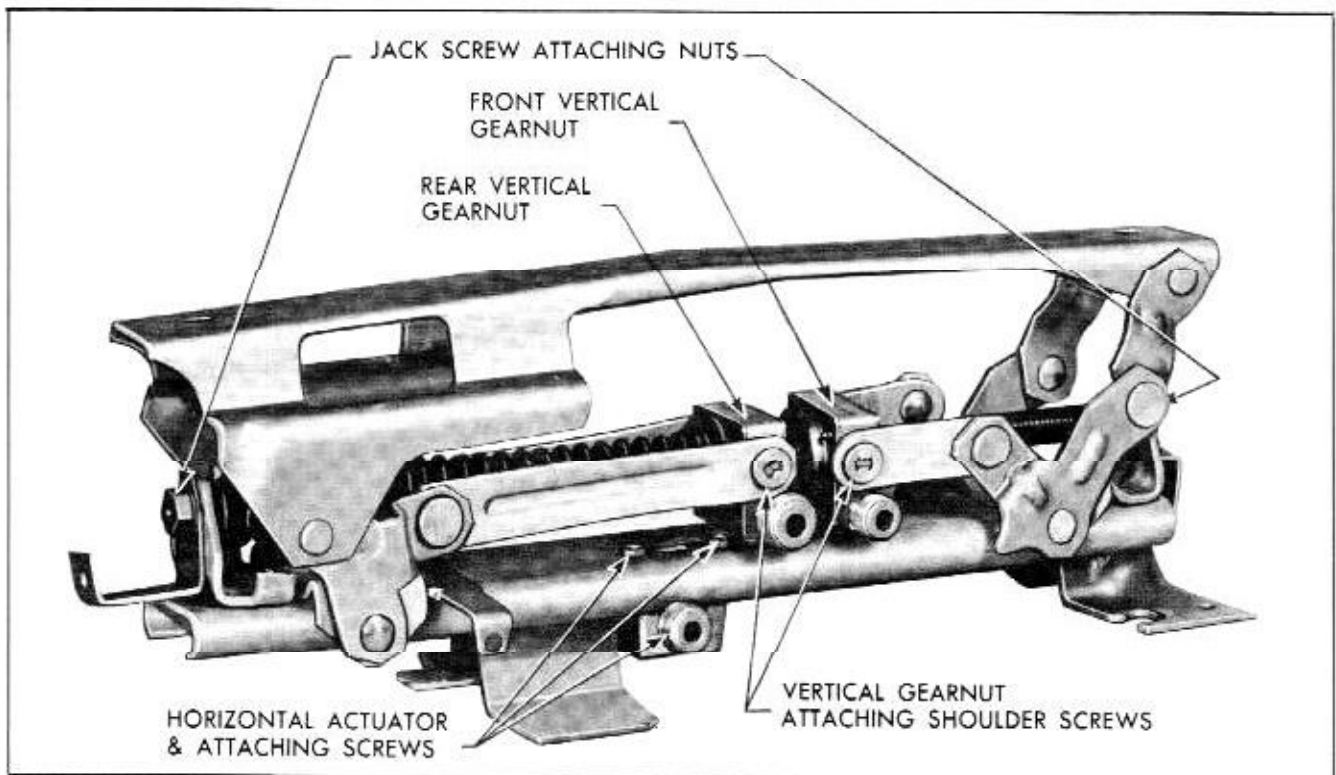

Fig. 17-73 Six-Way Seat Adjuster
3. Using clutch-type screwdriver or other suitable tool, remove shoulder screws securing linkages to vertical gear nuts. (Fig. 17-73)
7. To install, reverse removal procedure making sure jackscrew is installed with unthreaded shoulder at rear of adjuster and gear nuts installed as shown in Fig. 17-73. Rear vertical gear nut, which has the larger diameter cable attachment, should be installed to the rear; front vertical gear nut, which has the smaller diameter cable attachment should be installed at the front. Both vertical gear nuts should have cable attachment at bottom and facing inside of adjuster. (Fig. 17-73)
2. Remove screws securing horizontal actuator (Fig. 17-73) and remove actuator from seat adjuster.